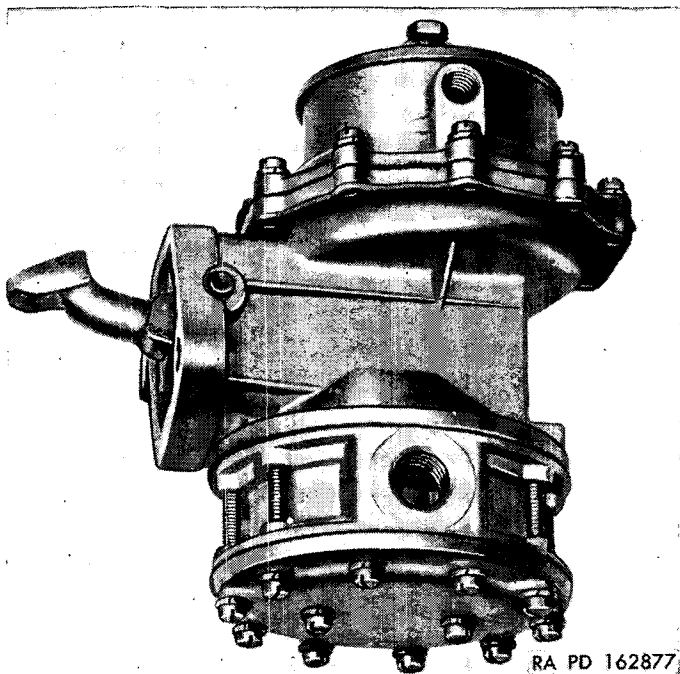

Figure 51. Fuel and vacuum pump, series BK and BN.
- (1) Mark edges of cover and body of series BK and BN fuel and vacuum pump (fig. 51) with a file. The parts may then be assembled in the same relative positions.
- (2) Remove only the outer circle of screws and lock washers. Separate body from cover at diaphragm flange near body. If cover sticks, it can be jarred loose with a light plastic hammer.